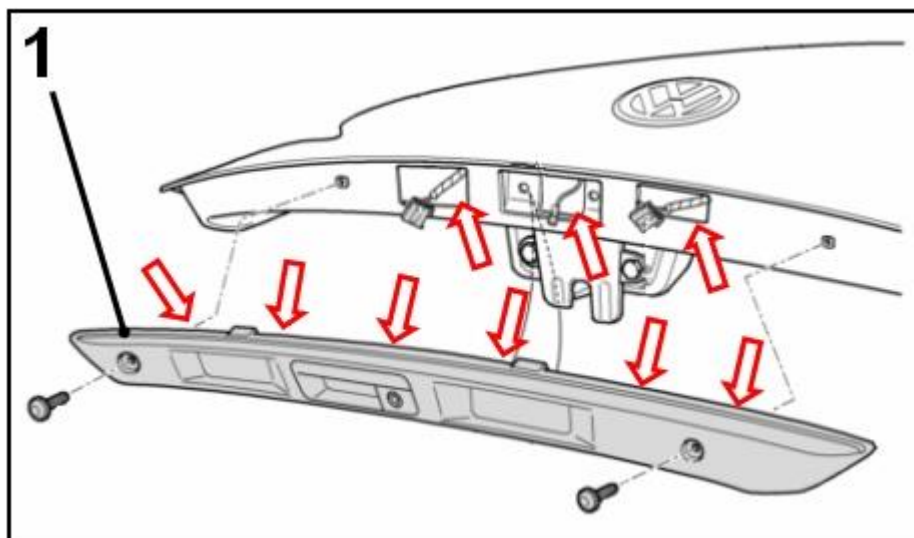

Figure 4
- Remove the rear lid grip piece (adapter with license plate light), See Repair Group 55 in Elsa (Figure 4).
- Check for water intrusion into the rear lid cavity and the rear lid release handle/button. (Figure 4, red arrows).
- If necessary, remove the handle with release button (Figure 4, item 1), See Repair Group 55 in Elsa.